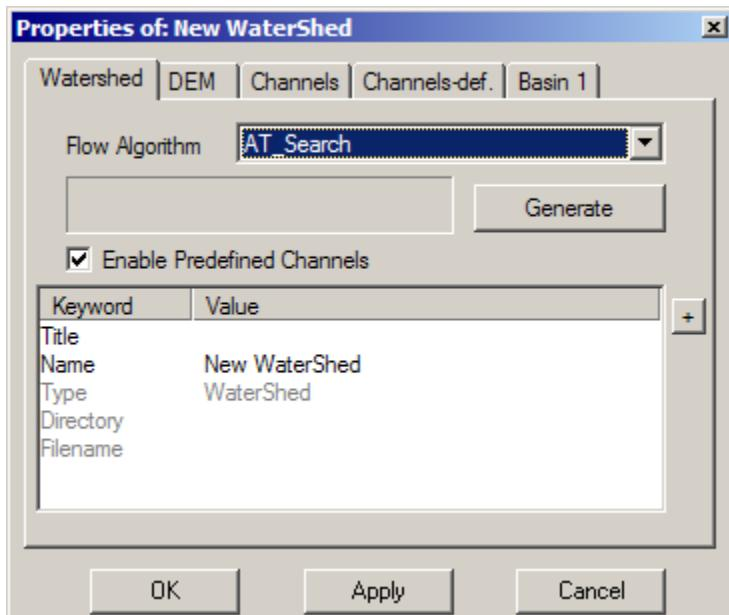

Figure 2.13: The *Enable Predefined Channels* box makes the *Channels-def.* tab available
- Click the **Enable Predefined Channels** box on the Watershed Properties dialog. See Figure 2.13 on p. 146 for details.